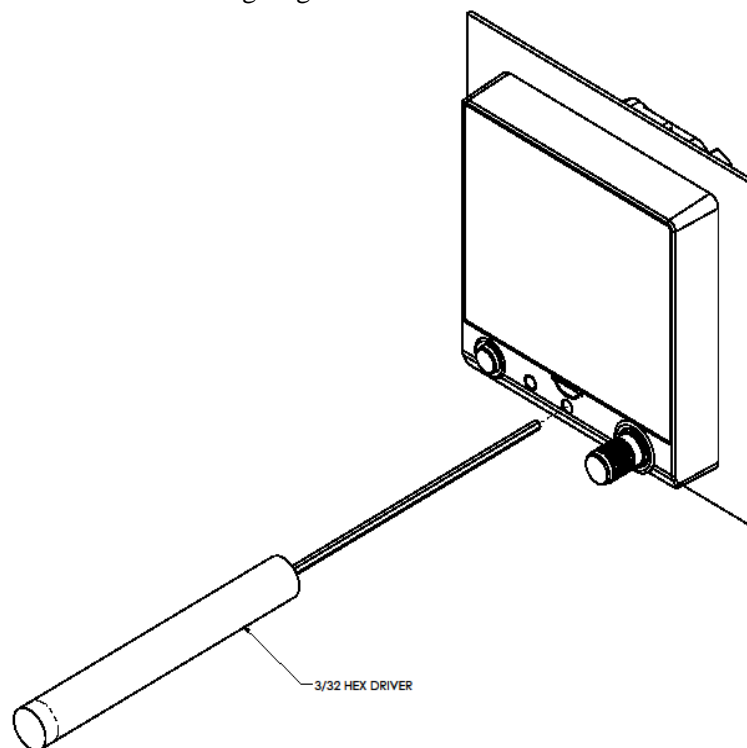

Figure 6-1 G5 Hex Driver
1. Insert a hex drive tool through the access hole in the front cover of the G5 as shown in Figure 6-1 loosen the unit from the mounting ring.
5. Insert a hex drive tool through the access hole in the front cover of the G5 as shown in Figure 6-1 and tighten the unit to the instrument panel using 10-12 in-lbs torque.